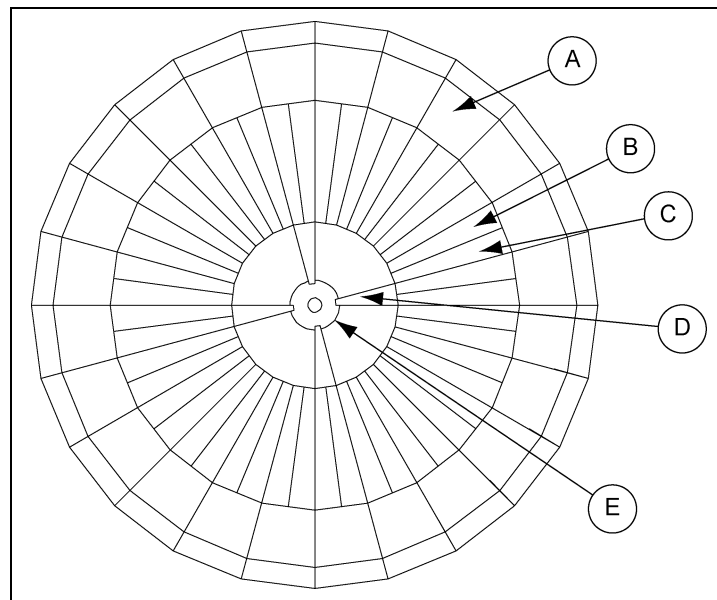

Figure 7I Hopper Panel and Discharge Collar Assembly
Step 3: Once the middle panels are installed the bottom hopper panels and discharge collar may be attached with 1/2" x 1" bolts at four (4) opposing points as shown in Figure 7I on Page 30. Complete this assembly by laying the remaining panels - moving around in one direction and lapping all sheets the same way. *Do not tighten bolts until all hopper panels are attached to each other, the compression ring, splice plates and discharge collar.*